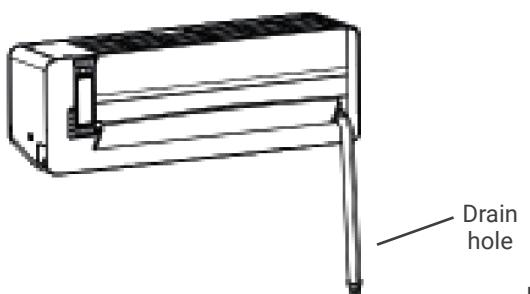

Fig.9
2. Connecting left back tube (similar to left lower tube). (optional, Refer to Fig. 9)
Right chart is available for the position of drain hose, refer to Fig 9.